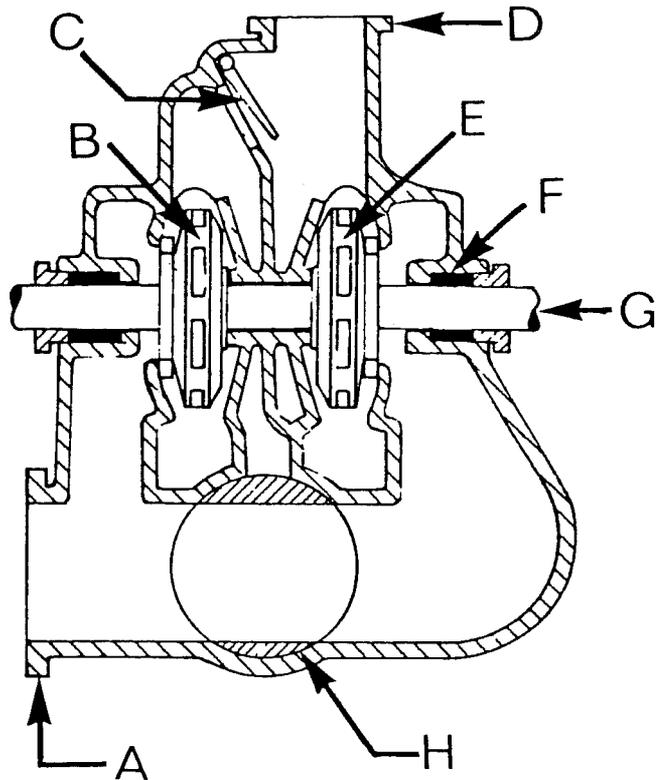

Figure 5
5. Part B in Figure 5 is called the